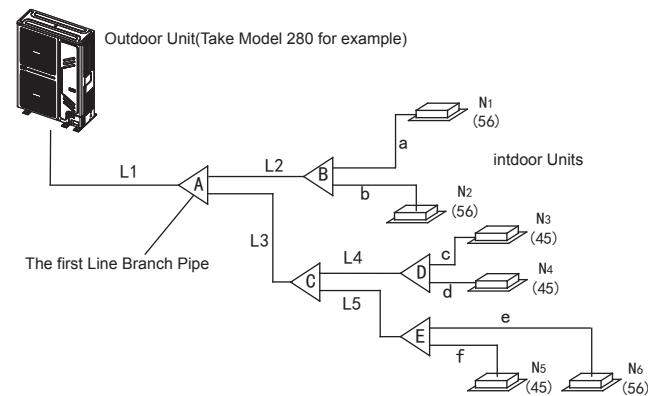

Fig. 4-5
- 2) Example 1: In the Fig. 4-5, The downstream inner units of the L4, and its total capacity is $45 \times 2 = 90$, refers to the Table 4.4, the air/liquid side of L4 is: $\Phi 15.9/\Phi 9.5$.